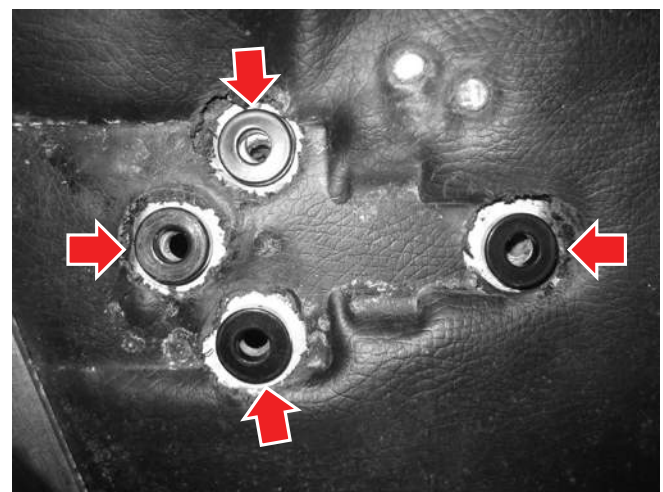

Figure 4-6
- With the washers in place over the front right and rear mounting holes, place spacers (A5200041-001) over all 4 holes (see Figure 4-6).